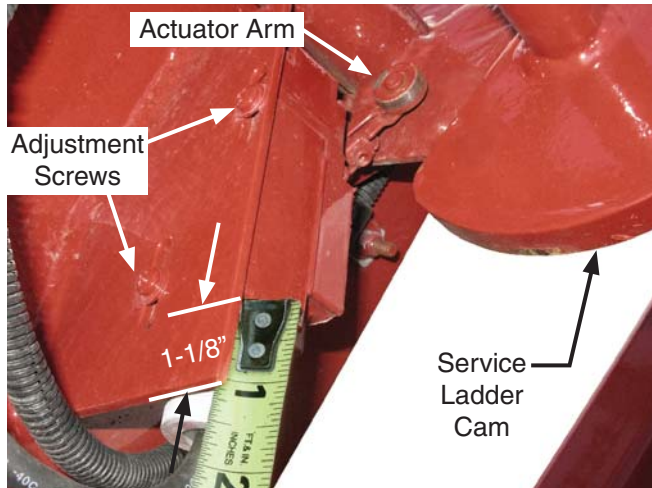

Figure 32 - Limit Switch - 13 Arm Adjustment
1. Use a Phillips head screwdriver to loosen the mounting fasteners holding the limit switch (see Figure 32).